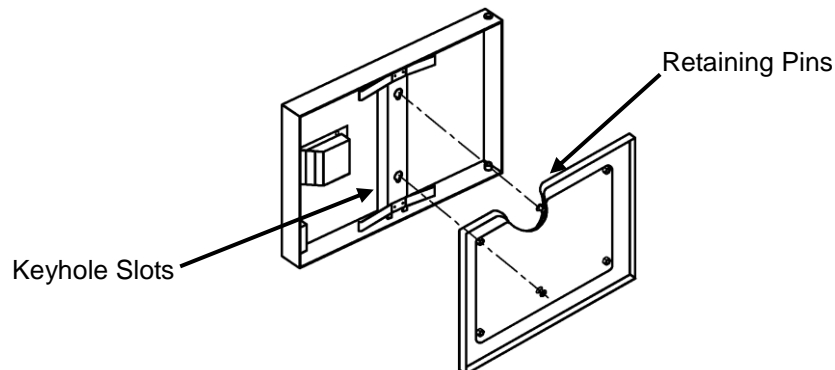

Figure 5-2
- a. Remove the door gasket assembly (see Figure 5-2) by holding the gasket assembly at the sides and lifting up and away from the door.